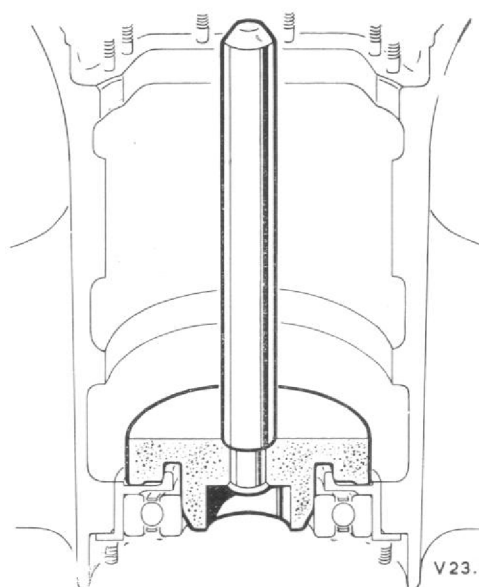

Fig. 1. Extractor T.72479, for pressing front bearing assembly out of air-intake casing.
4. Position extractor T.72479 over the front bearing housing and press out the front bearing assembly complete, Fig. 1.
Fig. 1. Exploded view of centre housing assembly. The components which are annotated to show that they are peculiar to the 48 Mk. 1 or 48 Mk. 2, are normally symmetrical in shape, but in order to clarify the difference in these particular components they are shown as half-sections in this illustration.